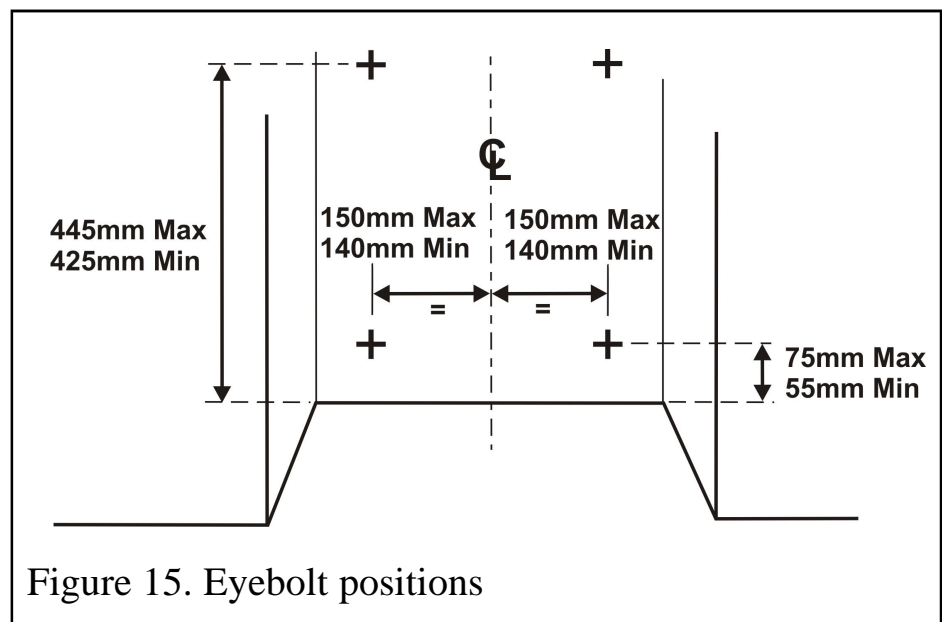

Figure 15. Eyebolt positions
2. Drill four holes in the rear wall of the fireplace for the fibre plugs. The holes should be drilled within the range of positions shown in figure 15 using a no.12 masonry drill. The holes should be equidistant each side of the centre line of the fireplace to ensure that the appliance finishes centrally in the opening when tension is